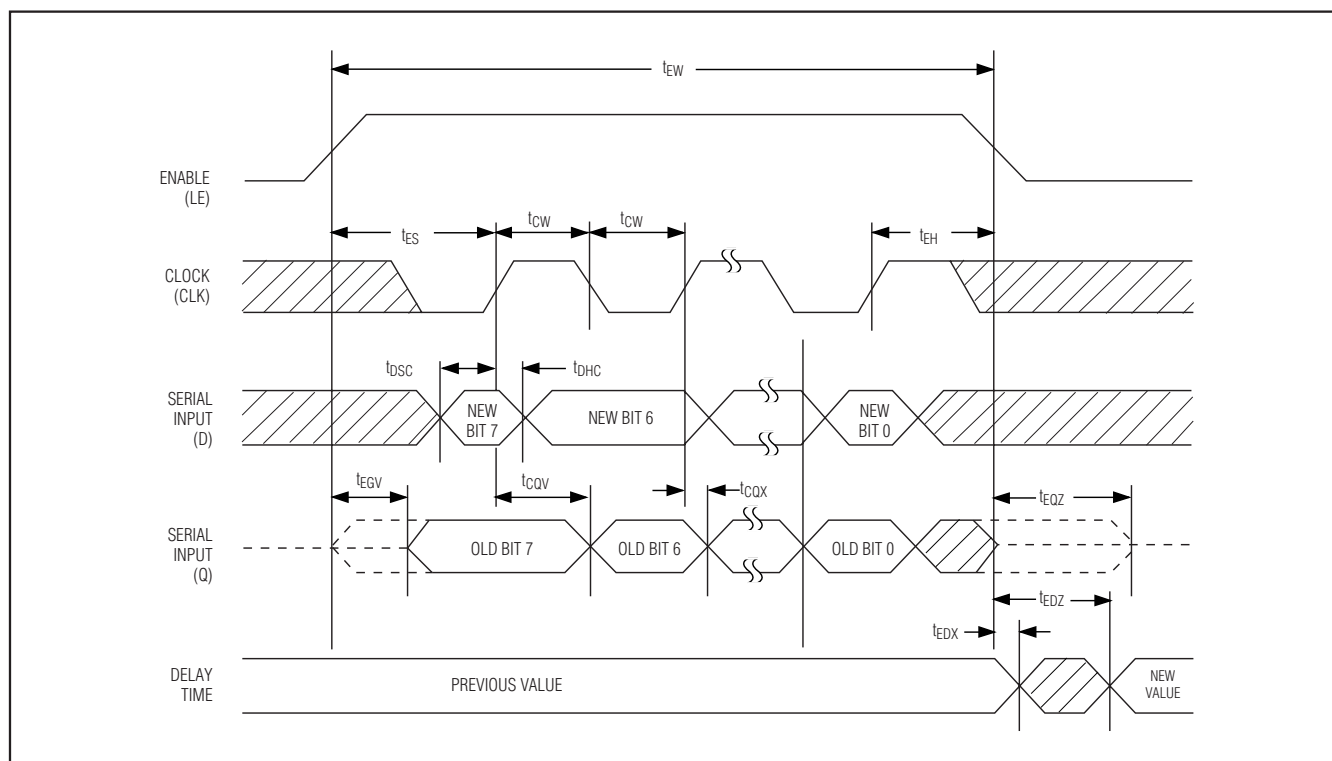

Figure 6. Serial Interface Timing Diagram
The 3-wire serial interface is enabled by connecting $\overline{P/S}$ to V_{CC} . Serial mode operates similar to a shift register. When LE is set at a high logic level, it enables the register and CLK clocks the data, D, into the register one bit at a time starting with the most significant bit. After all 8 bits are shifted into the DS1123L, LE is pulled low to end the data transfer and activate the new value. A settling time (t_{EDV}) is required after LE is pulled low before the signal delay meets its specified accuracy. A timing diagram for the serial interface is shown in Figure 6. The 3-wire interface also has an output (Q) that can be used to cascade multiple 3-wire devices, and it can be used to read the current value of the devices on the bus.